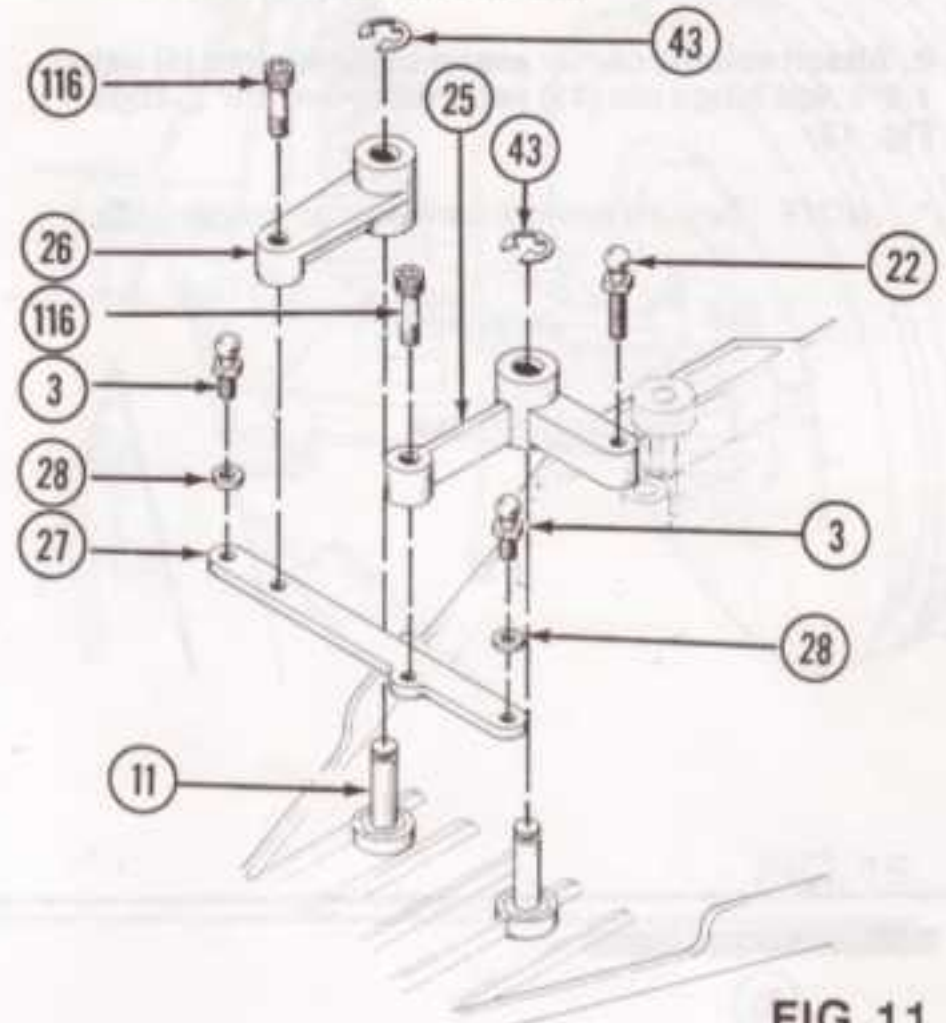

FIG. 11
1. Thread 3/8" studded balls (22) into servo saver (25) as shown. Fig 11.
2. Slide idler arm (26) and servo saver (25) onto steering posts (11) and secure them with 3/16" E-clips (43). Fig. 11.
3. Place a studded ball washer (28) onto a 1/8" studded ball (3) and thread into an end hole of the steering sector arm (27). Repeat for opposite end.
4. Secure steering sector arm (27) to idler arm (26) and servo saver (25) as shown using 4-40 x 1/8" socket head shoulder screws (116). Fig. 11.